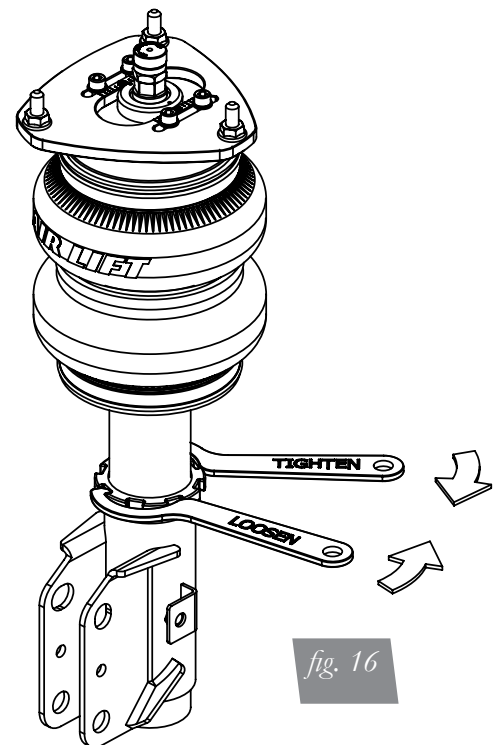

fig. 16
- Using the supplied spanner wrench, loosen the lower locking collar. (fig. 16)